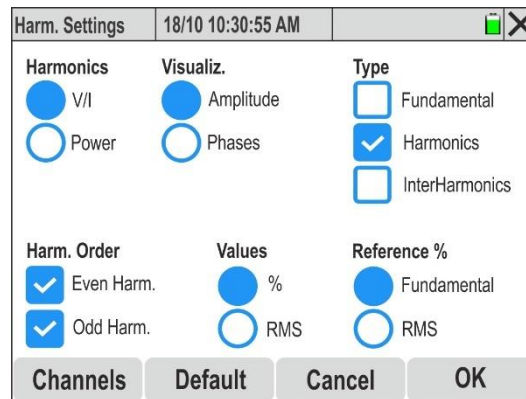

Fig. 53: Select the display setting of the harmonics graphs
3. Touch the **"Default"** key to reset the default selections present in Fig. 53